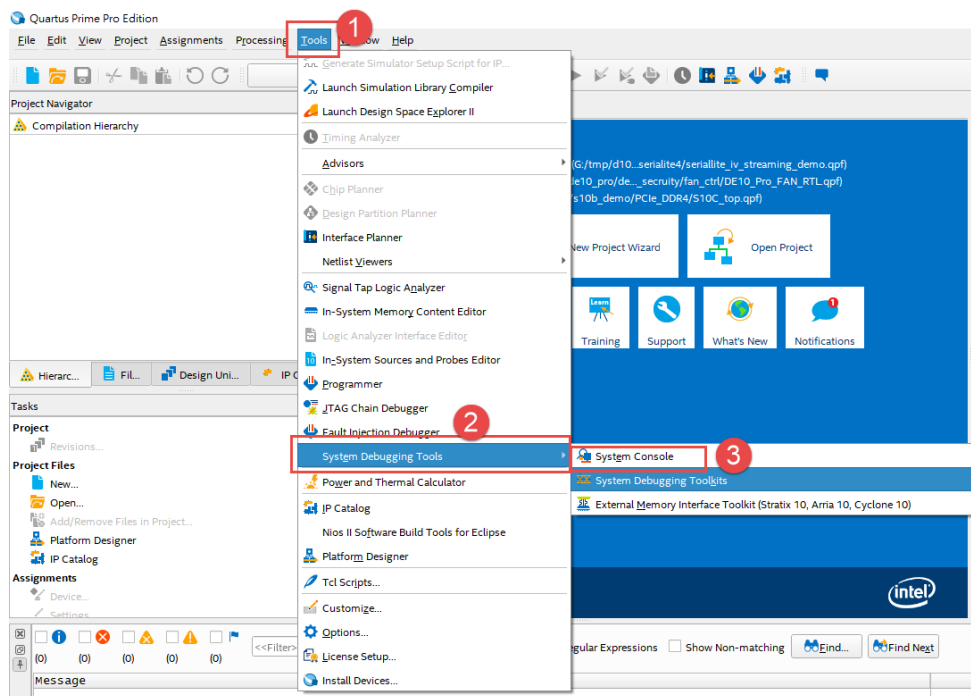
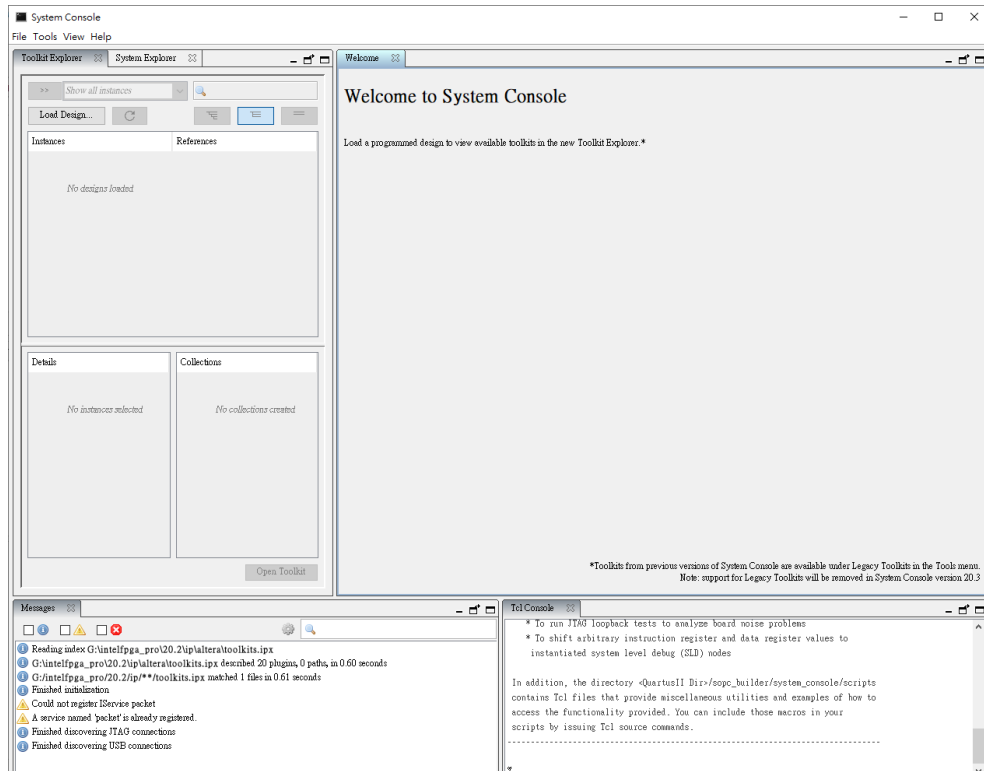

Figure 9-17 Open the System Console
Figure 9-18 System Console
4. Open the Intel® Quartus® Prime Pro Edition software, select **Tools > System Debugging Tools > System Console** to launch the system console (See **Figure 9-17** and **Figure 9-18**).